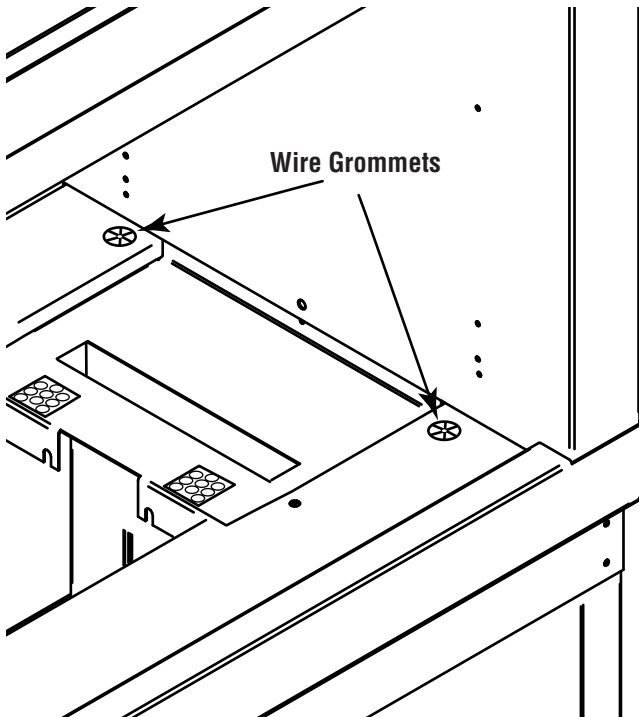
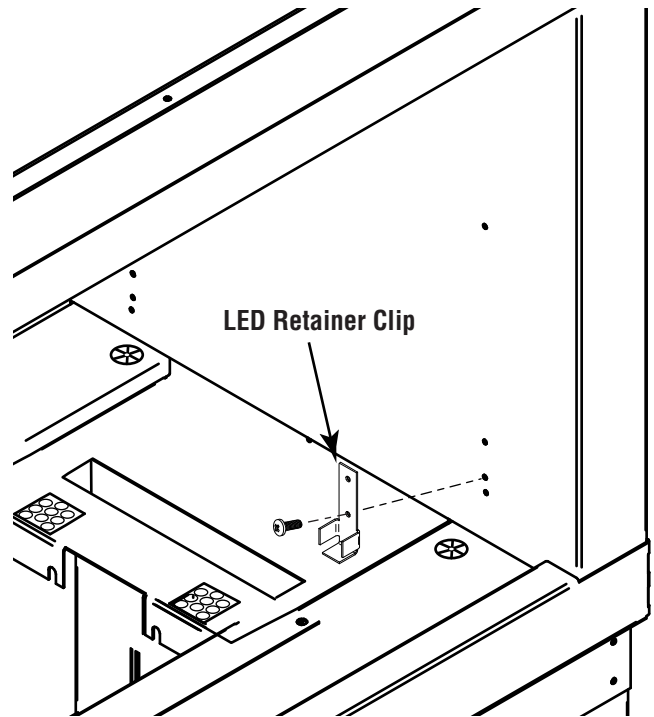

Figure 17 - Locating wire grommets
Figure 18 - Shows clip installed on right side of fireplace
NOTE: When converting to the see-through fireplace the glass windshield clips will need to be installed. See **Figures 18 and 19 on Page 16.** The clips will be packaged with the glass windshields. The see-through fireplace requires windshields on both sides for proper operation.
Step 3: Locate the wire grommets inside the firebox. See **Figure 17**. Directly above them will be a series of mounting holes for the windshield and LED retainer clips. Prepare the fireplace by installing the LED retainer clips. The retainer clips have two holes in them. Install one (1) clip on the left and one (1) clip on the right side of the inner fireplace side wall. Install as shown in **Figure 18**.